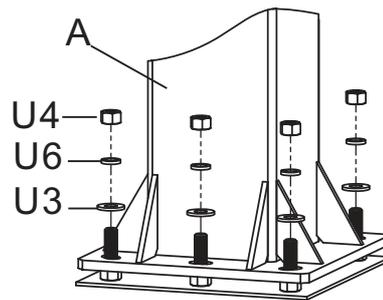

FIGURE 1B
B. Remove the Padding from Main Post (A). Place the Main Post (A) over the J-Bolts. Slide a 18mm Thick Washer(U3), a Lock washer M18 (U6) and thread a 18mm Hex Nut (U4) to each J-bolt. Tighten the Nuts only a few turns onto the J-Bolts as shown in FIGURE 1B.
C. If the Main Post (A) is not exactly vertical, adjust the 18mm J-Bolt Hex Nuts(U4) located under the Post base. Tighten all of the Hex Nuts(U4) Above Post base when Main Post(A) is vertical.